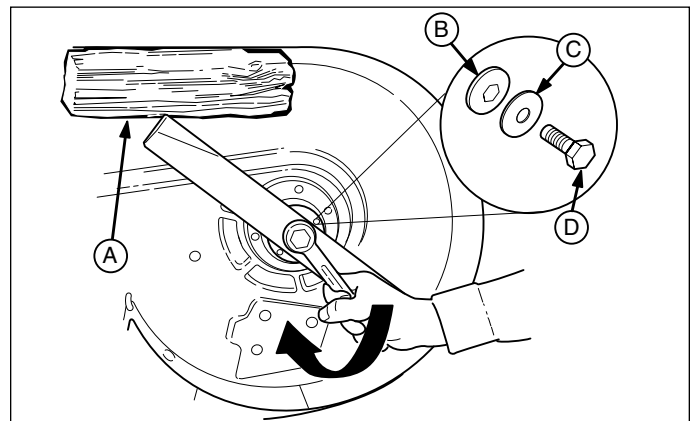

Figure 29. Blade Installation - 44” 50” Mowers
3. **44” & 50” Mowers:** Remove the capscrew (D, Figure 29), spring washer (C), hex washer (B), and blade.
7. **44” & 50” Mowers:** Reinstall the hex washer (B, Figure 29), spring washer (C) and capscrew (D). Use a wooden block (A) to prevent blade rotation while tightening the capscrew (D) to 61-75 Nm (45-55 ft-lbs).